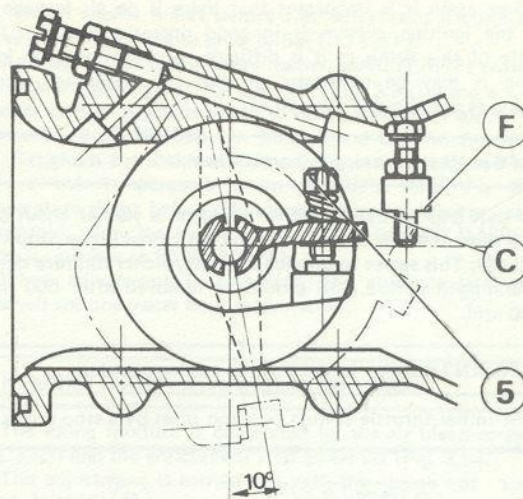

Fig 3.44 Minimum throttle opening (KF6) — Part 1 (Sec 40)
1 Minimum throttle opening is controlled by the stop screw (5) (Figs. 3.44 and 3.45). It is set by adjusting this screw until the 10° face of (C) (ie; the longer face) lines up with the lower face (F) of the boss on the air chamber.